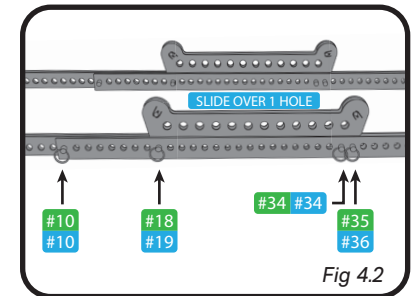

Fig 4.2
1. Set a pulley frame (I) into the groove along each of the length adjusters. (Fig 4.2)
2. Count 10 holes along the narrow length adjuster starting at the end with the square opening. Align this hole with the end of the wide length adjuster and insert a short quick-release pin. In the 18th hole from the same end insert a short quick release pin to attach the pulley frame as shown. (Fig 4.2) Now place a short quick-release pin through the 34th hole, which should be the last hole on the narrow length adjuster. Place the last quick-release pin in the 35th hole, which should be the last hole in the pulley frame. (Fig 4.2) (NOTE: This is a good starting point to determine balance. Further adjustments may be required once the frame is attached to the hardtop).